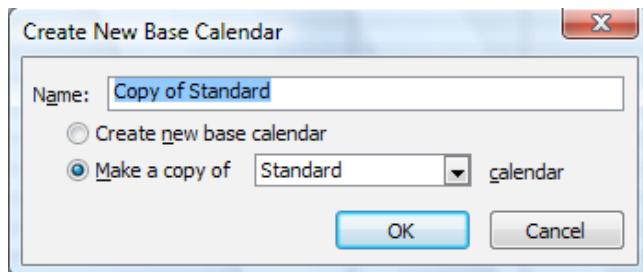

Figure 3-12: Creating A New Base Calendar
- i. In the calendar, either select specific dates for which you want to make a change or select all days of the week by selecting the column headings.(figure 3-12)